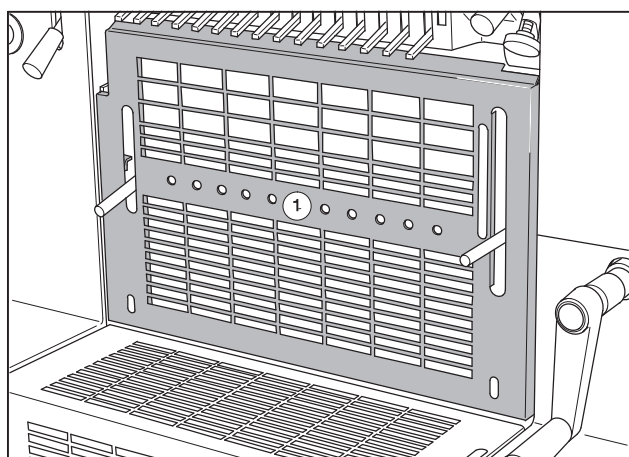

Fig. 63 The inking unit guard
1. Stop the press and open the inking unit guard (Fig. 63/1).
11. Close the inking unit guard (Fig. 63/1).